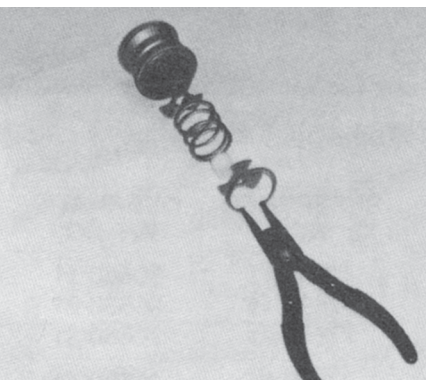

Figure 4-9 Removing shuttle assembly components.
(4), spring (4E), and guide sleeve (4) from the shuttle (4A). See Figure 4.9.